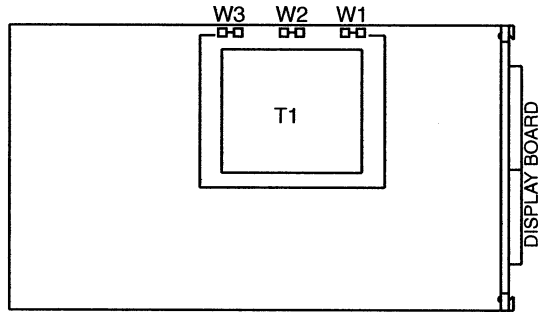

Figure 3-1. Main Board Jumpers (W1, W2, W3)
3.2 MAIN BOARD POWER JUMPERS (refer to Figures 3-1 & 3-2)
2. Locate the solder jumpers W1, W2, and W3 (located near the edge of the main board alongside the transformer - refer to Figure 3-1).
Figure 3-1 shows the location of solder jumpers W1, W2 and W3.